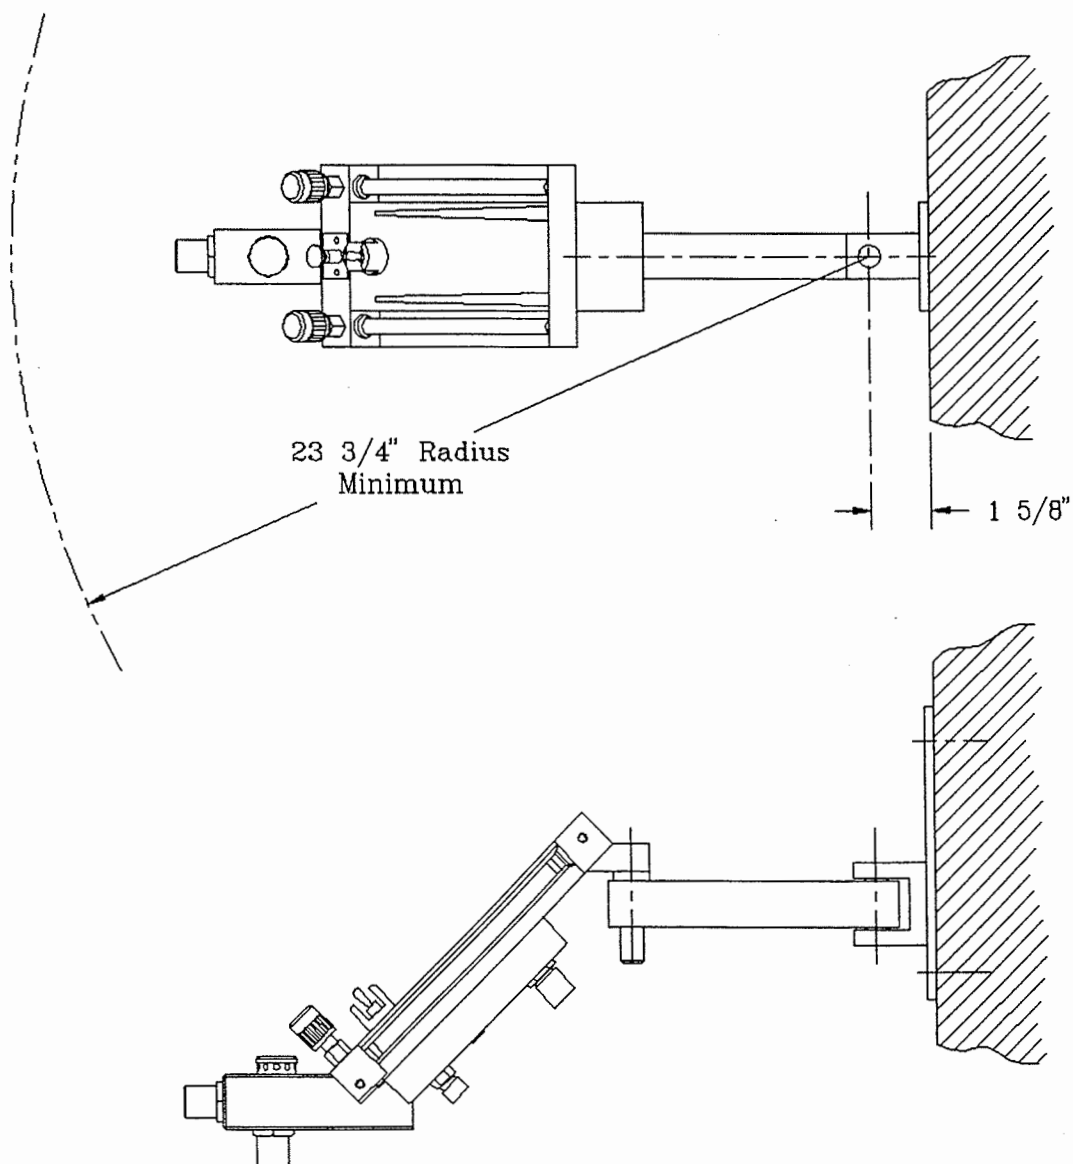

Figure 28
C) RA Wall Mounted (see fig 28)